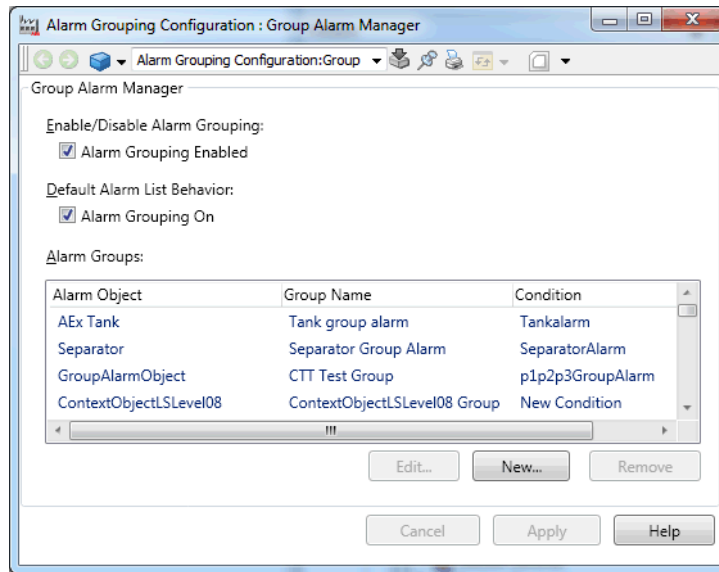

Figure 52. Group Alarm Manager
2. Select the **Group Alarm Manager** aspect (refer to Figure 52).